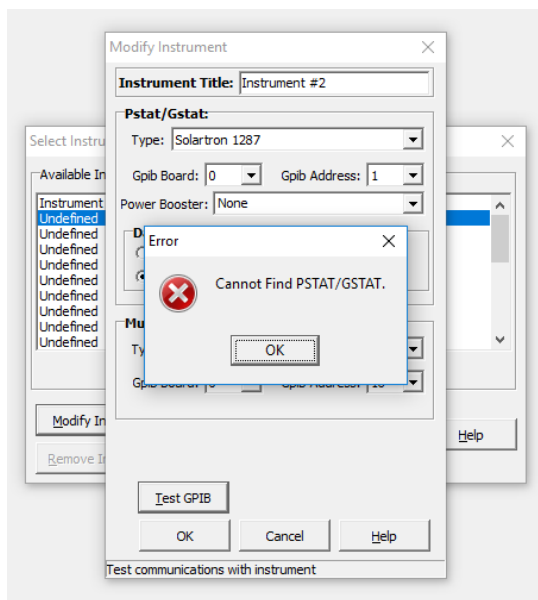
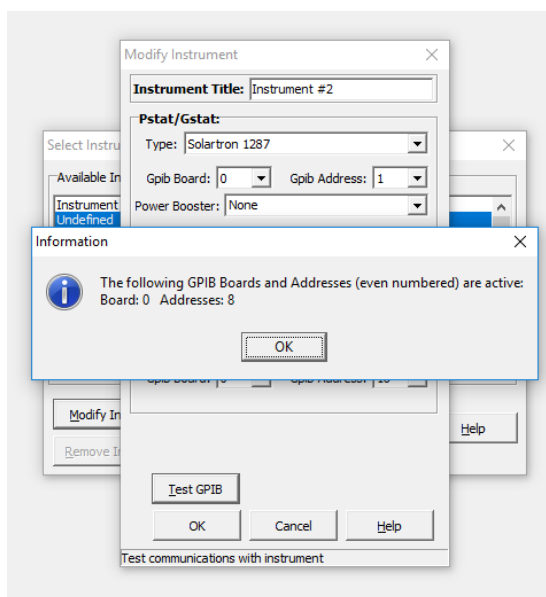

Figure 3
Figure 4
- b. If the test fails, an error message will display (Figure 3), followed by a second message that indicates the GPIB address of any instrument that is connected to the PC (1287A in this case) as shown below (Figure 4):